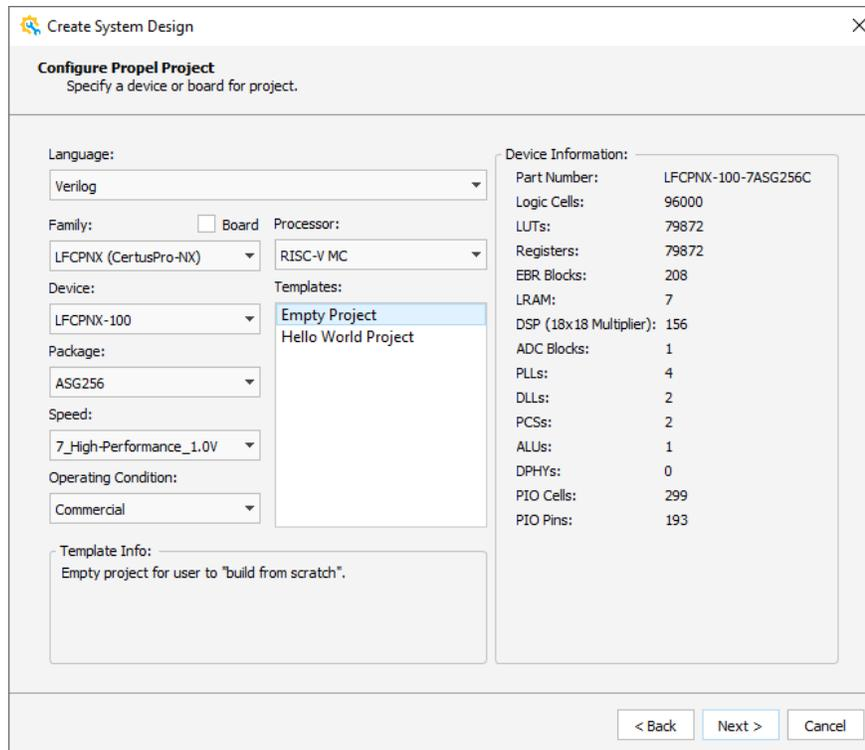

Figure 2.3. Create System Design – Propel Project Configure Wizard
5. Click **Next**. The Create System Design - Propel Project Configure wizard opens (Figure 2.3).
5. Click **Next**. The Propel Project Configure wizard opens (Figure 2.3).